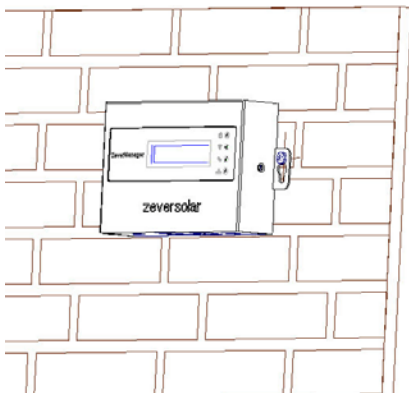

Fig. 4-3: Hang the ZevertManager
Step 3: Hang the ZeverManager on the screw heads by tilting it slightly as shown in Fig. 4-3.